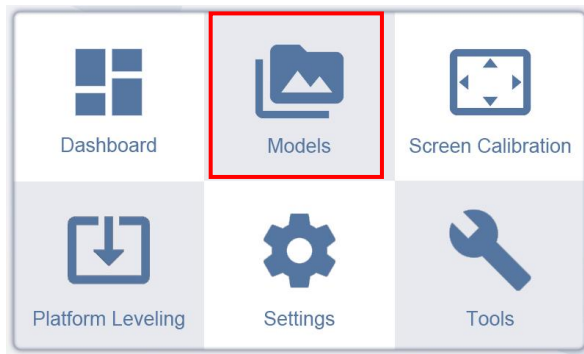
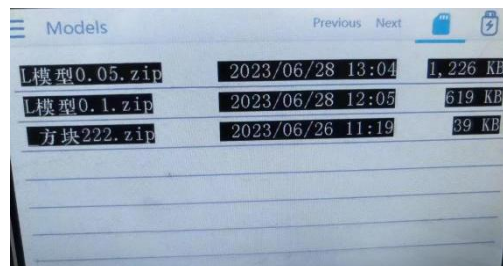

Figure 3-22
Figure 3-23
4. Model printing: Click on "Models" in the main menu as shown in Figure 3-22 to enter the model selection page, as shown in Figure 3-23.